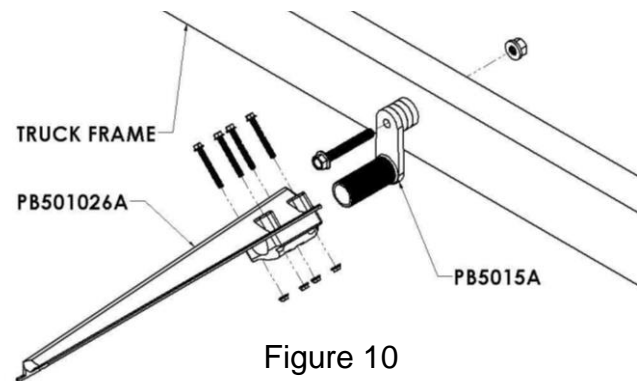

Figure 10
- A. Once the brackets are placed in position with the fender, securely tighten the 5/8" x 4-1/2" steel swivel to attach the swivel securely to the frame (Figure 10). **Recommended torque is 160-170 ft-lbs.**